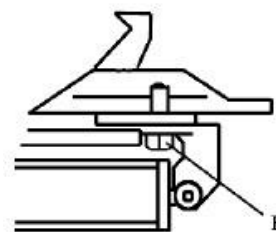

Fig 19
**Note:** After the first 20 days of use, retighten the jaws with tightening screws (B) on the Turntable (Fig 19)